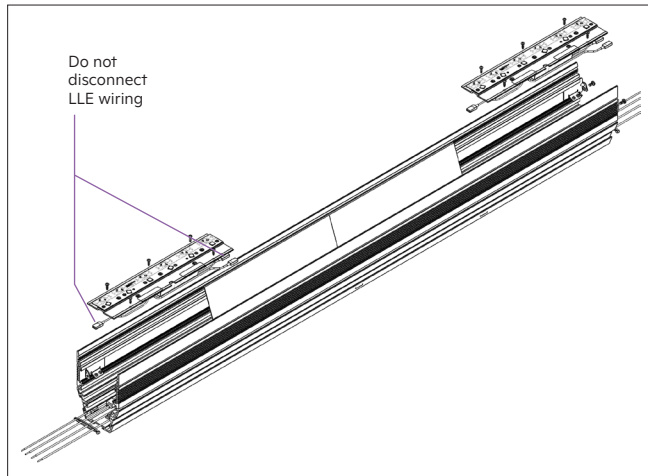

fig. 12
3. Partially remove both of the exposed light engines (see figs. 12 & 13). See instructions below images.
4. Mount the fixture on threaded rods (by others) using the holes below the light engines (see fig. 12). Secure with a washers and locknuts (by others).